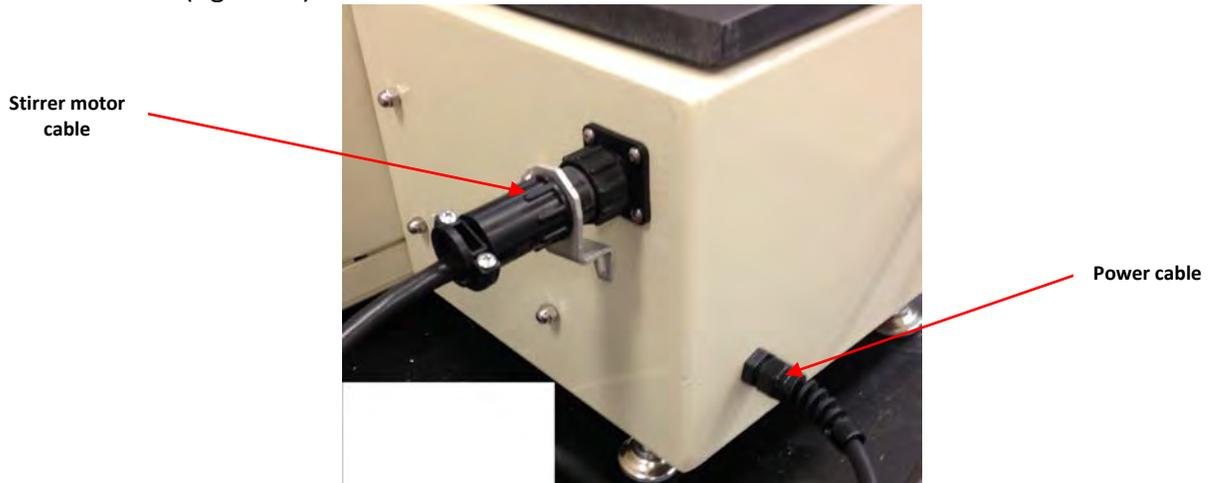

Figure J5 – Motor cable connector
11. Connect the stirrer motor cable to the 4-pin connector on the back of the control stand (figure J5).